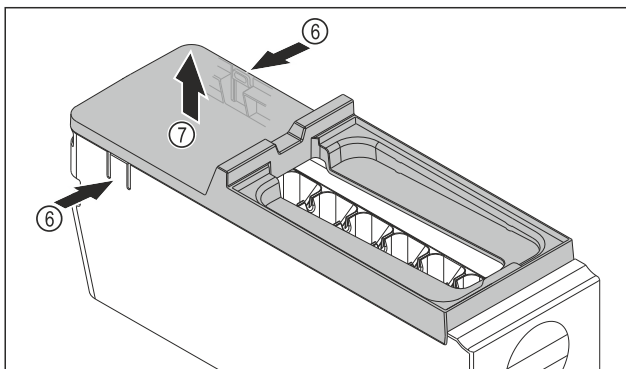

Fig. 75
- ▶ Removing the EasyTwist-Ice body cover: Push the tabs Fig. 75 (6) on both sides of the EasyTwist-Ice body with one hand.
- ▶ Use the other hand to remove the cover Fig. 75 (7) upwards.